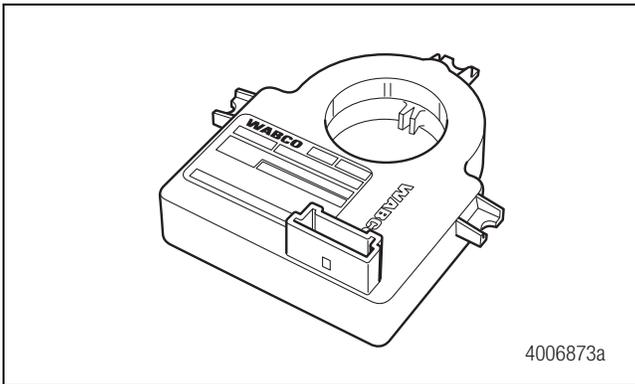
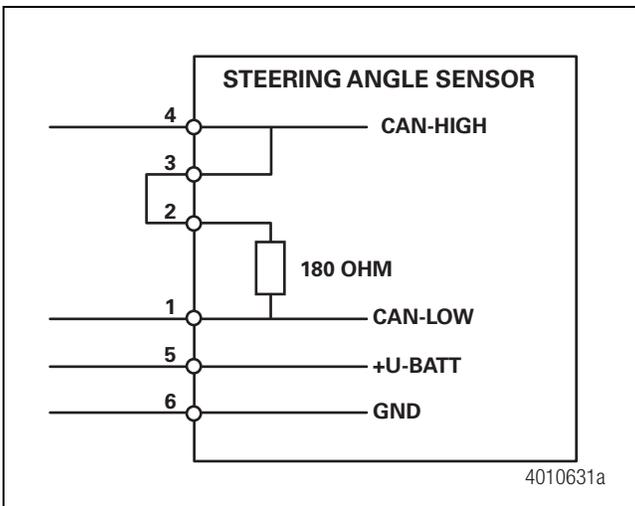

Figure 3.39
Figure 3.40
- Disconnect SAS and check terminating resistance across Pin 1 and Pin 2 of the SAS. Figure 3.39 and Figure 3.40.
**NOTE:** For correct sensor operation, there must be a jumper wire on the harness side across either Pin 2 to Pin 3 or Pin 4 so terminating resistor is connected as shown in Figure 3.40.